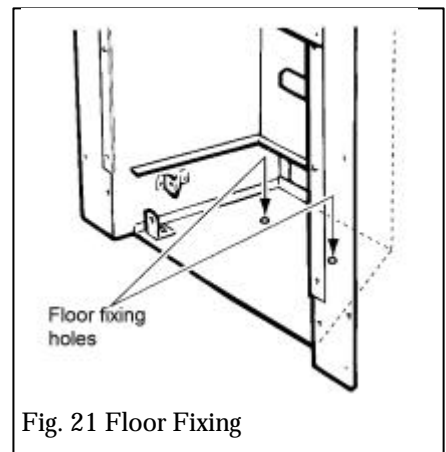

Fig. 21 Floor Fixing
7.1.2.9 Drill a hole into the fireplace floor through each of the two holes in the base of the convection box. using a no.12 masonry drill (see figure 21).